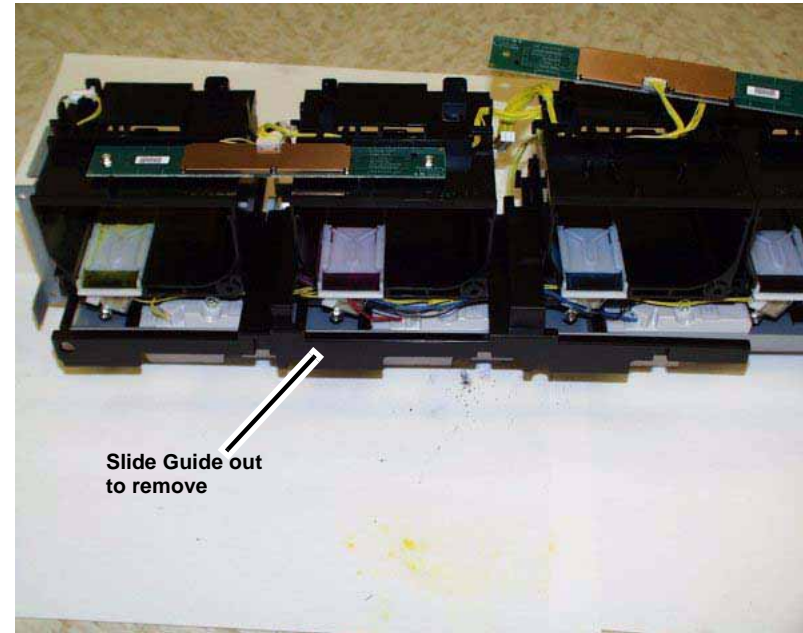

Figure 4 Removing the Guide
5. Remove the Guide (Figure 4).